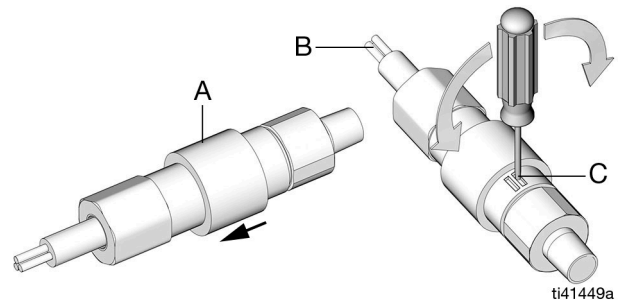

FIG. 1
3. Slide adjustment cover (a) (open) toward cable. It may be necessary to twist cover to overcome friction (FIG. 1).
5. With the cable (b) facing up, insert the blade of a flat screwdriver into the adjustment slot (c) (FIG. 1).